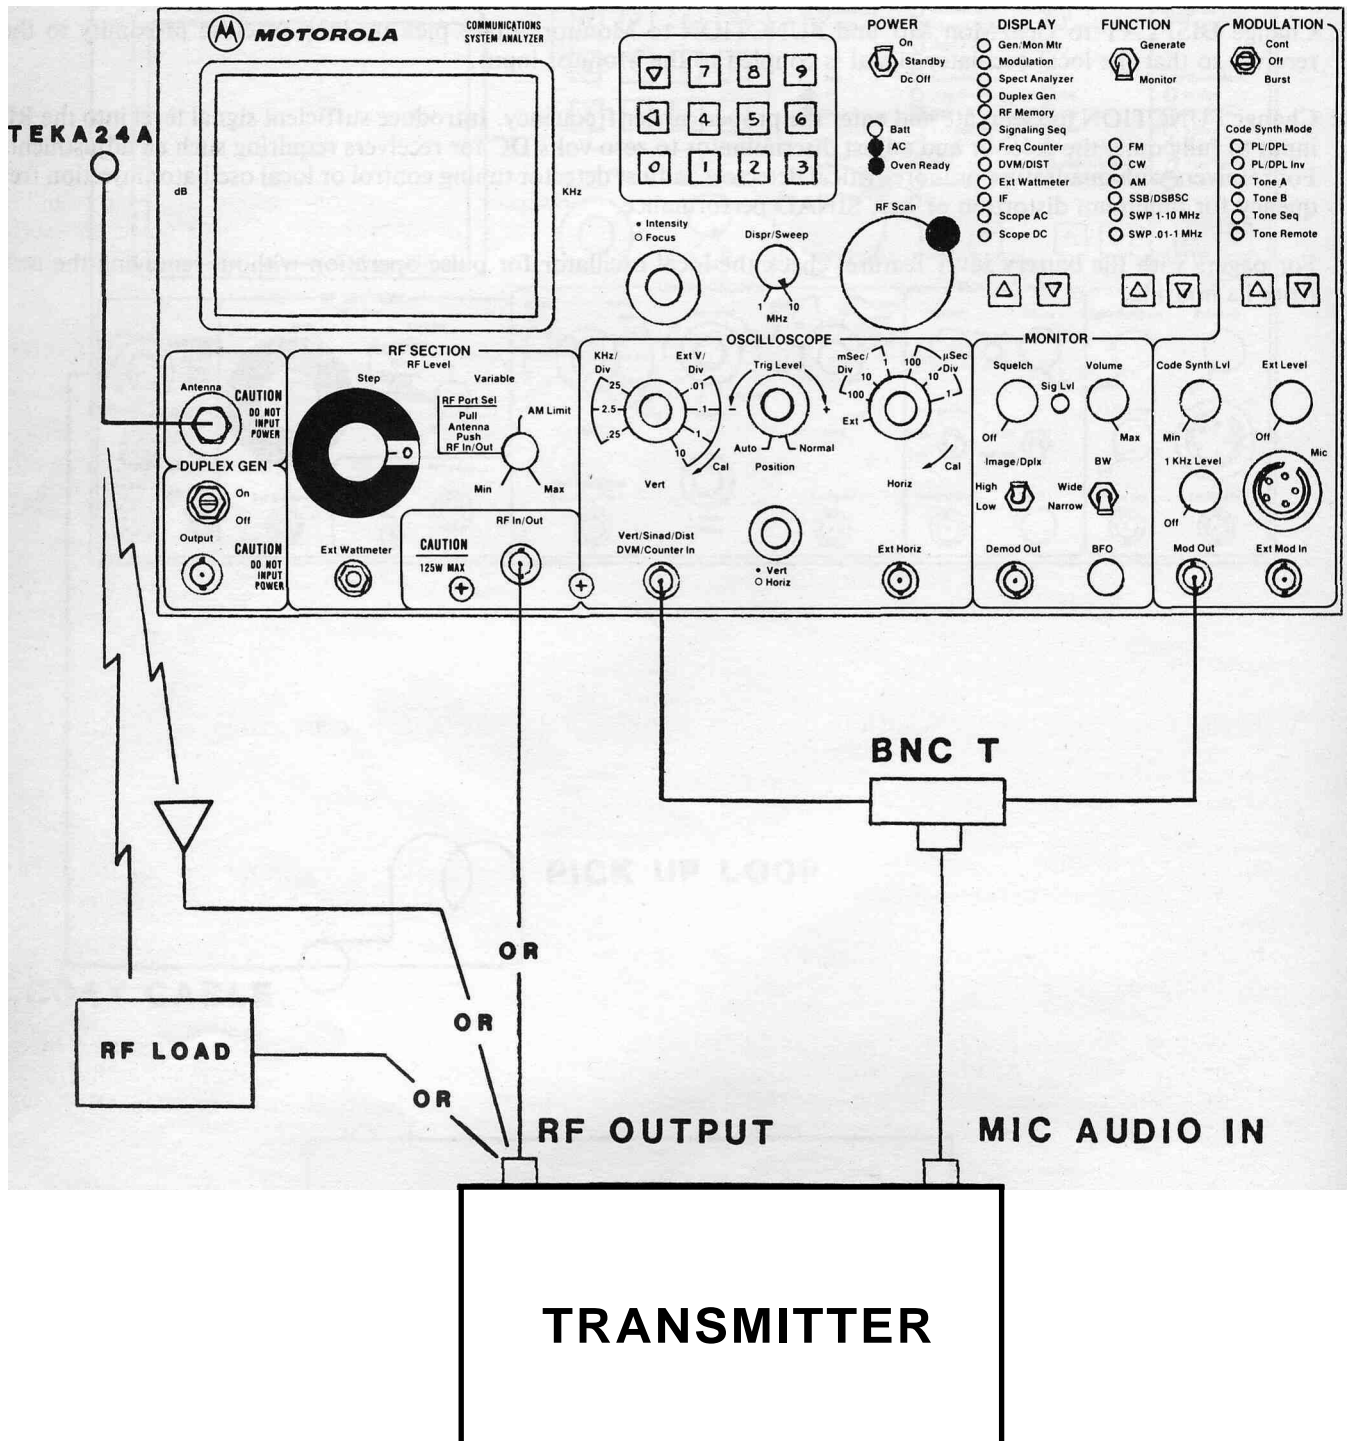

FIGURE 4-7. TRANSMITTER TESTS SETUP
1. Connect the Analyzer's RF In/Out to the RF output of the unit under test and make the other connections as shown in figure 4-7.
2. Operate the transmitter under test either into its own antenna or into a dummy RF load, as shown in figure 4-7.